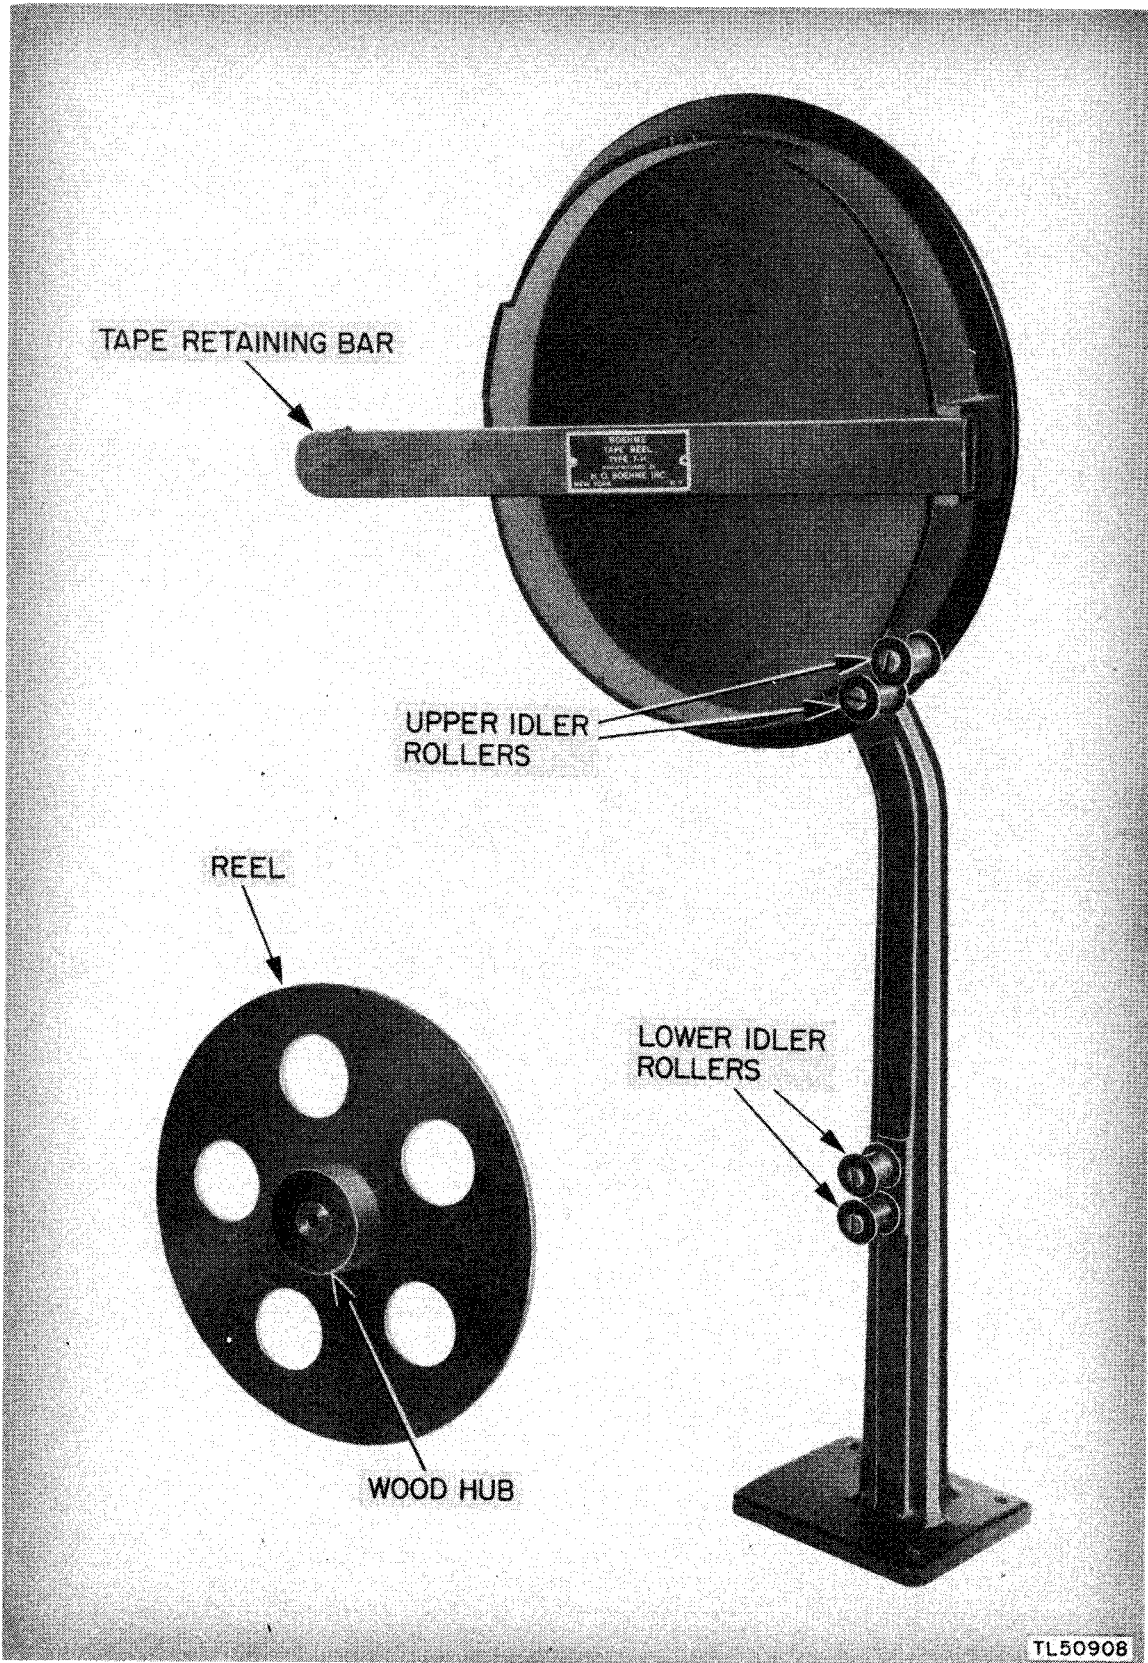

Figure 87. Tape reel, type 7-H.
**a. Description.** The tape reel, type 7-H (fig. 87), is designed to hold and feed paper recording tape  $\frac{3}{8}$ -inch wide into the ink recorder. The tape reel consists of two principal parts: the stand and the reel. The reel consists of a wooden core or hub of proper size to fit rolls of paper tape, and a stamped metal disk to which the hub is attached. The stand is cast metal with a circular tape-retaining shell to accommodate  $\frac{3}{8}$ -inch wide paper tape in rolls which may be up to 8 inches in diameter. A hinged retaining bar across the front of the shell keeps the tape securely in place. At the same time, the tape-retaining bar allows rapid loading and acts as a spring to prevent the tape from overrunning. The vertical arrangement of the tape reel makes the reel readily visible, and permits it to be placed close to the ink recorder, thereby conserving table space.
**b. Dimensions and Weights.** (1) Base only:  $3\frac{3}{4}$  inches wide by  $3\frac{1}{4}$  inches deep.
(2) Overall dimension:  $10\frac{1}{2}$  inches wide by  $3\frac{1}{2}$  inches deep by 23 inches high.
(3) Packing dimensions: 12 by 5 by 26 inches.
(4) Net weight: 5 pounds.
(5) Shipping weight: 20 pounds.